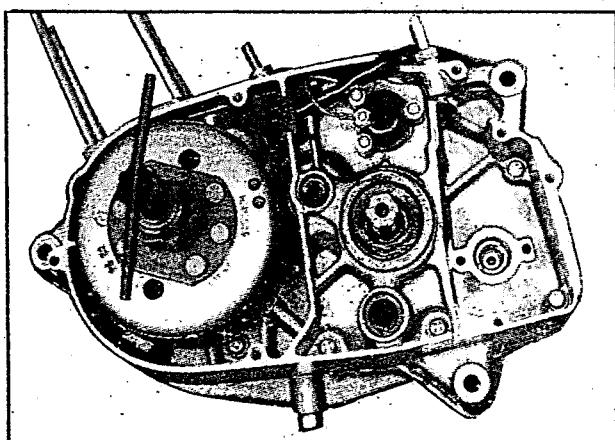

Fig 3.34
- Remove the rotor by using the special tool (fig 3.34)